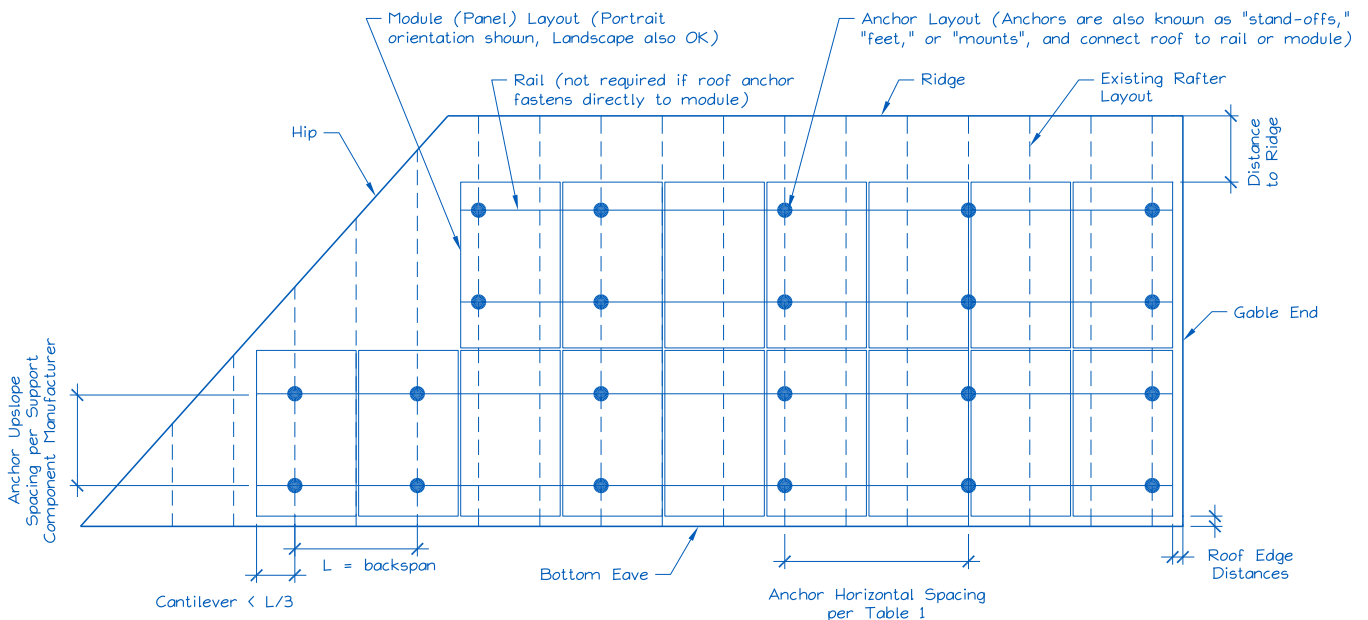

Figure 2. Sample Solar Panel Array and Anchor Layout Diagram (Roof Plan).
E. Is a roof plan of the module and anchor layout attached? (see Figure 2)
- 1) Proposed anchor horizontal spacing (see Figure 2): _____' - _____"ft-in
- Anchors are also known as "stand-offs", "feet", "mounts" or "points of attachment". Horizontal anchor spacing is also known as "cross-slope" or "east-west" anchor spacing (see Figure 2).